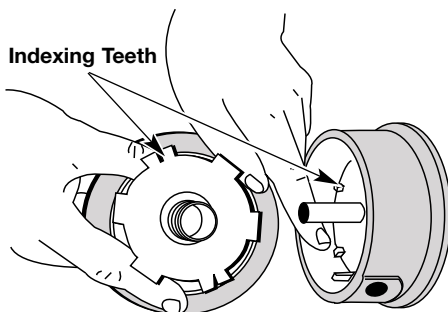

Fig. 31
5. Check the indexing teeth on the inner reel and outer spool for wear (Fig. 31). If necessary, remove burrs or replace the reel and spool.